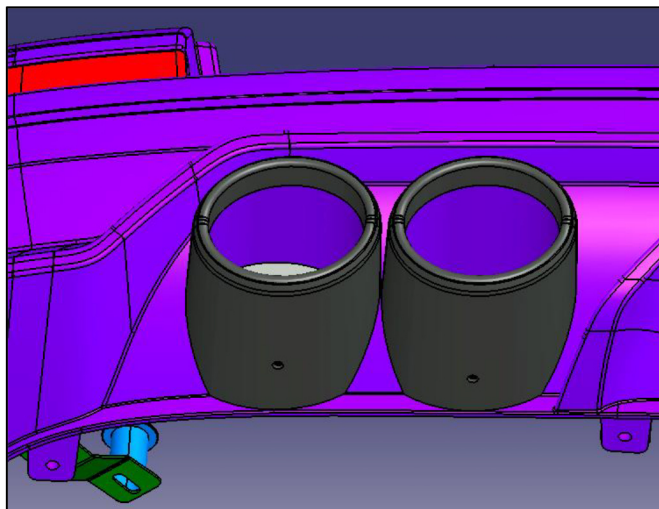

Fig 13: Installed ABT end pipes
31. Attach the ABT end pipes to the ABT rear skirt, carefully align them and fix them into the correct position with suitable installation material (e.g. tape). Remove any excess adhesive (Fig. 13).